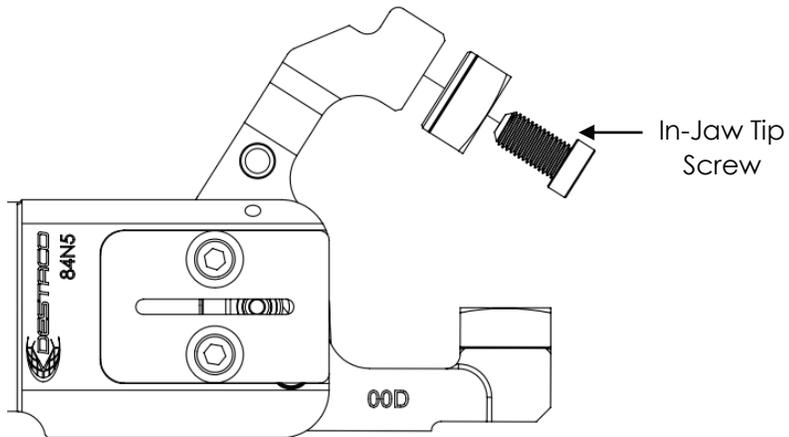

Fig.3
2. Remove the existing tip by unscrewing the In-Jaw tip screw in the jaw using 4mm Allen key (see Fig.3).